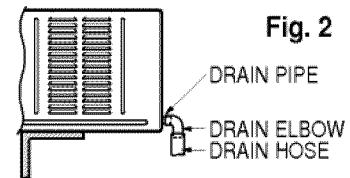

Fig. 2
3. Or connect a pipe elbow of $\frac{9}{16}$ " inside diameter to the drain pipe, then connect a drain hose of $\frac{9}{16}$ " inside diameter to the pipe elbow as shown in Fig. 2.